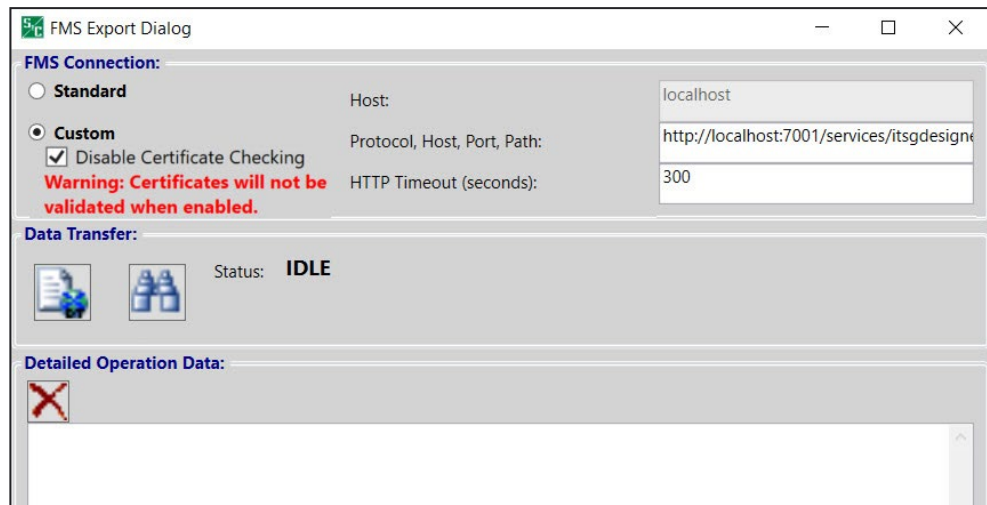

Figure 143. The FMS Export Dialog screen.
STEP 7. The **FMS Export** Dialog screen will open. See Figure 143.